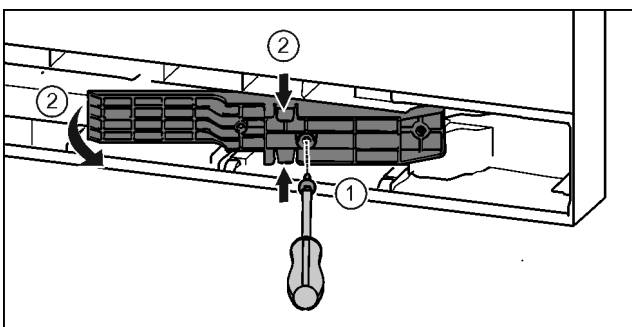

Fig. 22*
- ▶ Skrutkovačom T15 uvoľnite skrutky.* Fig. 22 (1)
- ▶ Vytiahnite adaptér.* Fig. 22 (2)